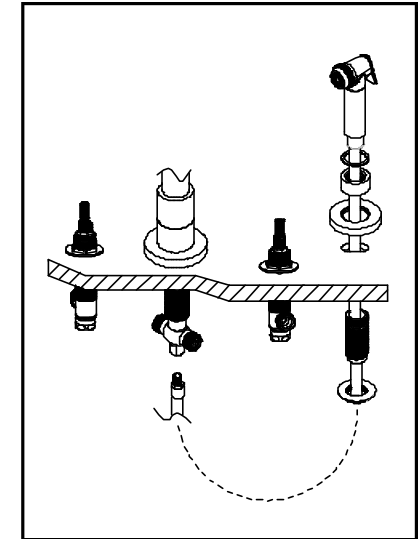

Figure 2
3. Insert vegetable spray hose through components as shown. Secure the escutcheon in place by threading shank into bonnet and flange nut to underside of mounting surface. Attach vegetable spray hose to base of diverter tee. See Fig. 2